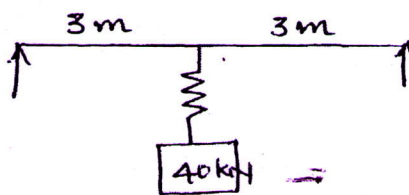

Figure.9
- 8 a) Write the dynamic equation for free vibration and force vibration for undamped and damped single degree of freedom system. (4)
- b) Derive the response of SDOF system subjects to damped free vibration (12)
- c) Draw the displacement time graph for overdamped and underdamped free vibration (4)
- 9 a) Compute the natural frequency of the simply supported beam with central load as shown in figure.9. Given spring stiffness=15kN/m and E of beam = 3×10^4 N/mm² (8)